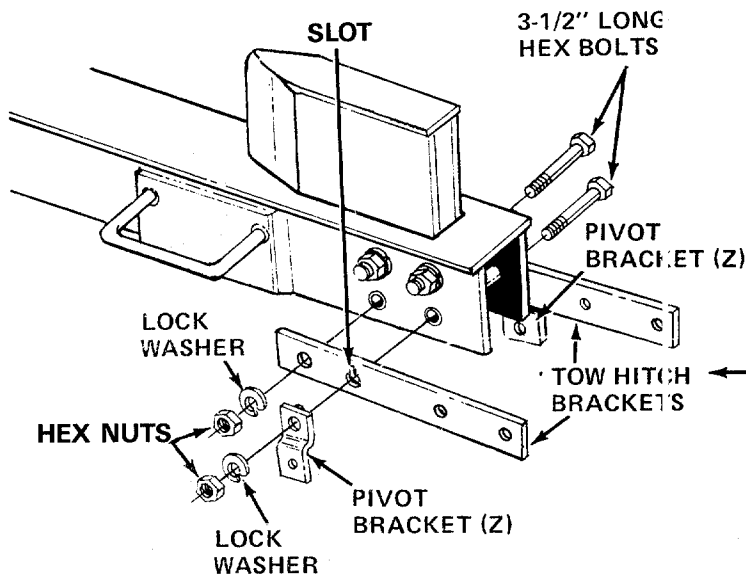

FIGURE 4
1. Remove the two bottom bolts, lock washers and hex nuts from the beam and wedge. See figure 4.
3. Place one pivot bracket (Z) on each side of the two hitch brackets, lining up the holes in the hitch bracket with the holes toward the end of the beam. The pivot brackets must be assembled with the bend to the outside as shown in figure 4. The tab on each pivot bracket goes into the slot on tow hitch brackets. Secure with the other hex bolt, lock washer and hex nut removed in step 1.